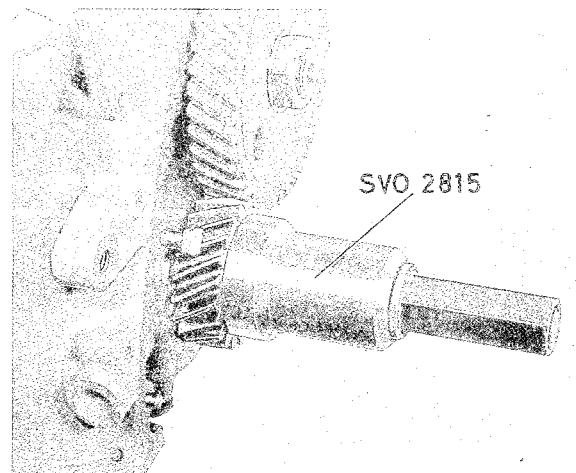

Fig. 2-33. Installing crankshaft gear
The fillets at the ends of the journals should have a radius of 2.0–2.5 mm (0.080–0.100") on all journals, see Fig. 2-33. The width measurement (A) for the pilot bearing depends on the size of the journals and should be ground in order to obtain the correct measurement. After grinding has been completed, all the burr should be carefully removed from the oilway openings and all the journals lapped with a fine grinding paste to the finest possible surface finish. The crankshaft should then be washed. All the oilways should be cleaned with particular thoroughness in order to remove any metal chippings and grinding residue.
6. Re-fit the crankshaft gear with tool 2815, see Fig. 2-33.